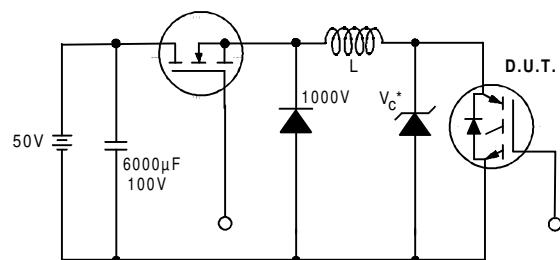

Fig. 19 - Clamped Inductive Load Test Circuit
- ② $V_{CC}=80\%(V_{CES})$, $V_{GE}=20V$, $L=10\mu H$, $R_G= 100\Omega$ (figure 19)
- ③ Pulse width $\leq 80\mu s$, duty factor $\leq 0.1\%$.
- ④ Pulse width $5.0\mu s$, single shot.